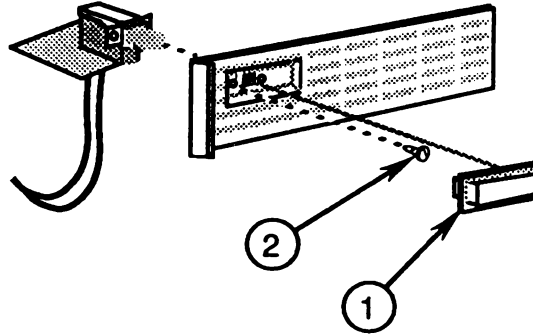

FIGURE 18
- a) Pull the plastic switch button (Figure 18, #1) off the on/off switch shaft.
- b) Remove the screw (Figure 18, #2) that secures the on/off switch to the plastic bracket.